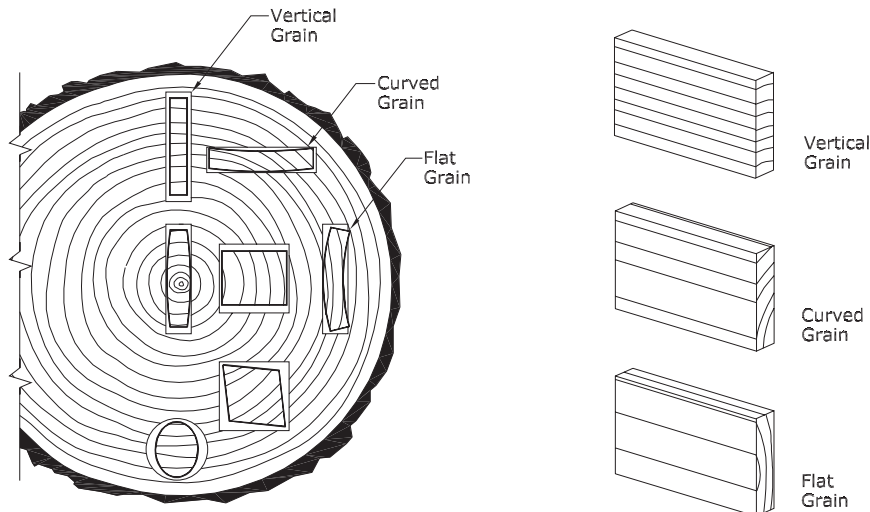

FIGURE 1
- **Growth ring orientation:** Flat-grained, softwood lumber (typically used in most grades) shrinks and swells to a greater extent than vertical-grained lumber. Edge-grained softwoods (available at a premium price) cup less and hold paint better than flat-grained wood of the same species (Fig. 1).